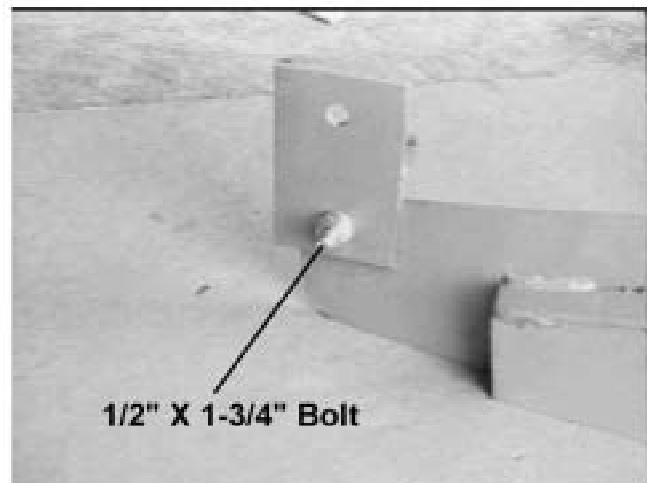

Figure 9
3. Install front mount brackets, with the welded side facing down, to outside of subframe assembly and retain with one 1/2" x 1-3/4" grade 5 bolt, 1/2" flat washer and 1/2" locknut. See Figure 9.